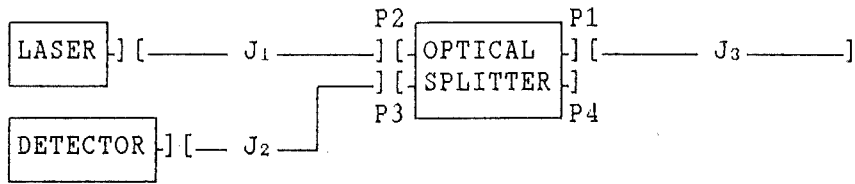

Figure 12-A
** Configure the system as shown in Figure 12-A below.